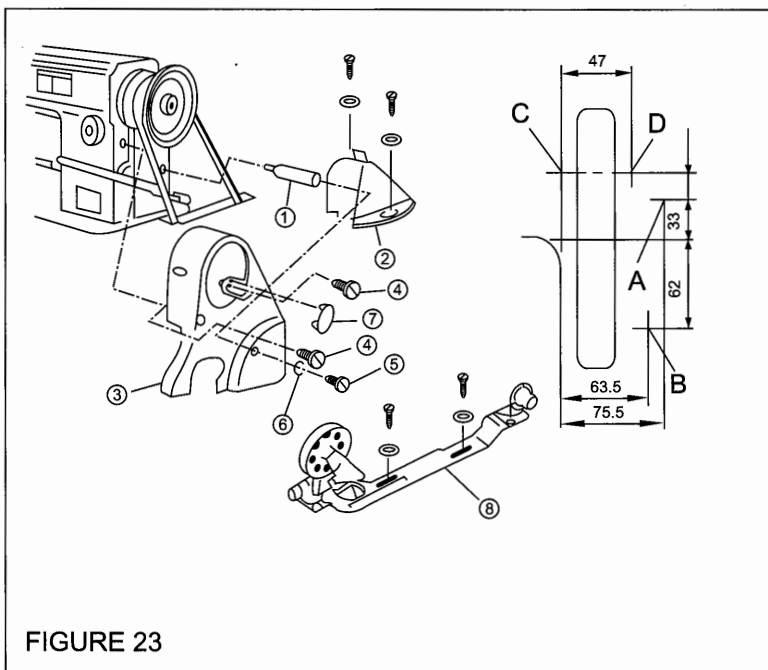

FIGURE 23
- 1) When sewing heavy material, move the thread guide ① to the left in direction A to increase the length of thread pulled out by the thread take-up.
- 2) When sewing light-weight material, move the thread guide ① to the right B in direction to decrease the length of thread pulled out by the thread take-up.
- 3) When marker line C on the thread guide ① is aligned with the center of the screw, the adjustment is neutral.
17. INSTALLING THE BELT COVER AND BOBBIN WINDER (FIGURE 23,24,25)